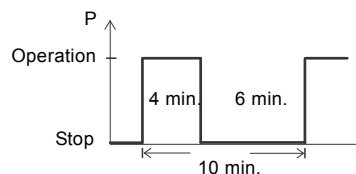

Fig. 15 S3, intermittent operation
11. Check that the liquid level is above the motor for S1 operation and above the cable entry for S3 operation. See fig. 15. If the minimum level is not reached do not start the pump.
See fig. 15.